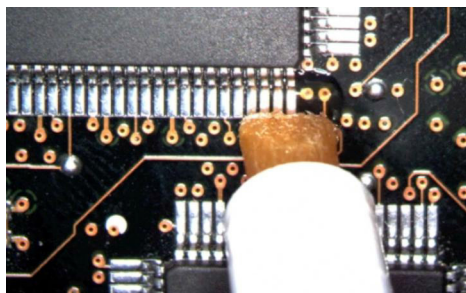

Figure 46 Applying Flux
- 1 Apply flux to your target leads as shown in **Figure 46**.